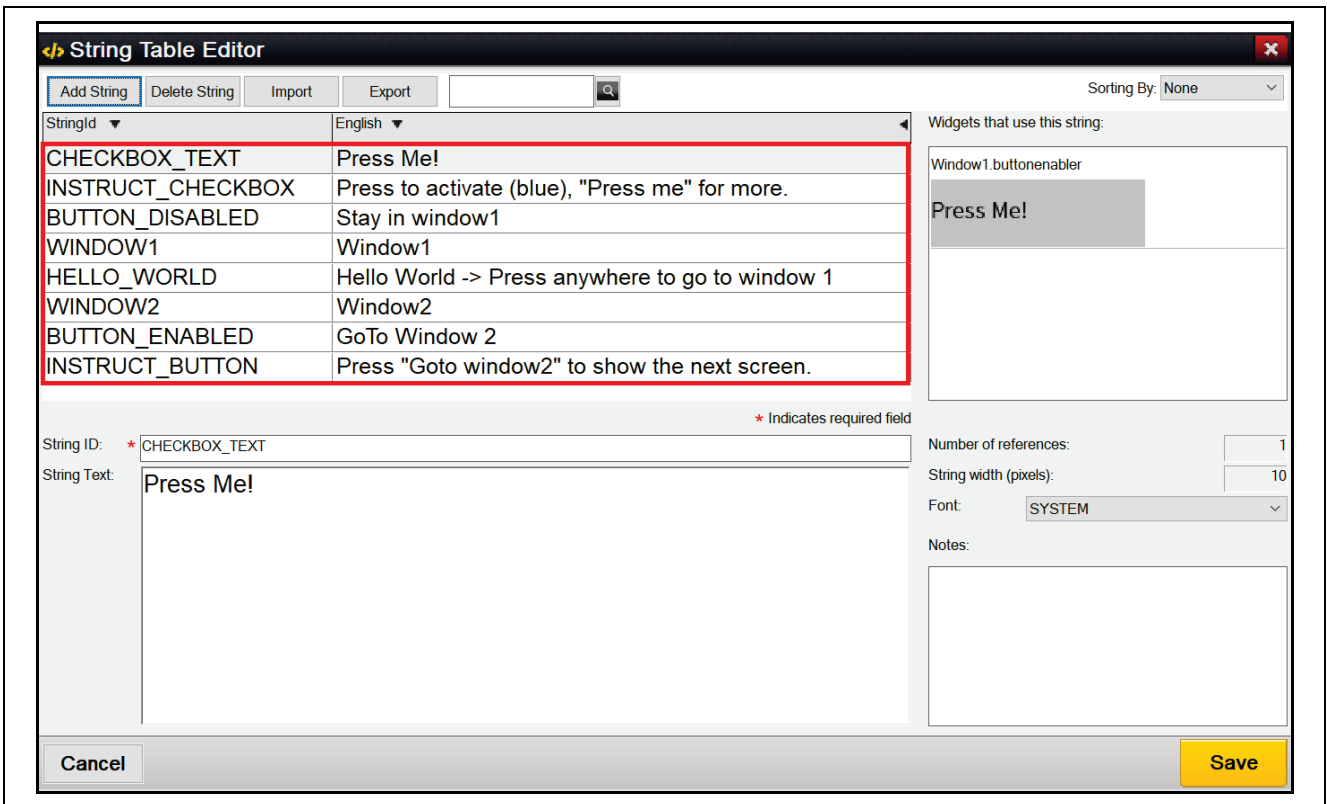

Figure 47. All Strings
10. Continue to click **Adding String**, then edit **String ID** and **String Text** until the table appears like **Figure 47** Then click the **Save** button.